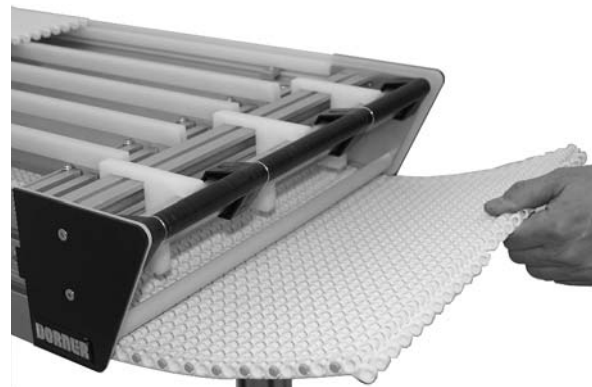

Figure 20
4. Nose Bar Idler Tail: Wrap belt around idler tail (Figure 20).